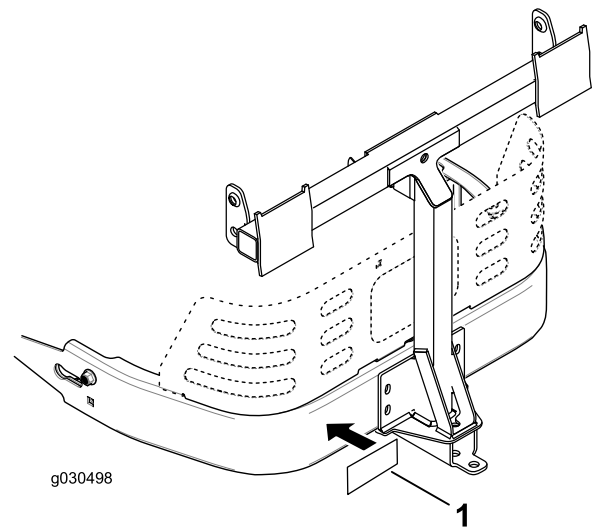

Figure 8
3. Attach the draw-bar decal 1.3 cm (1/2 inch) to the left of the attachment mount (Figure 8)